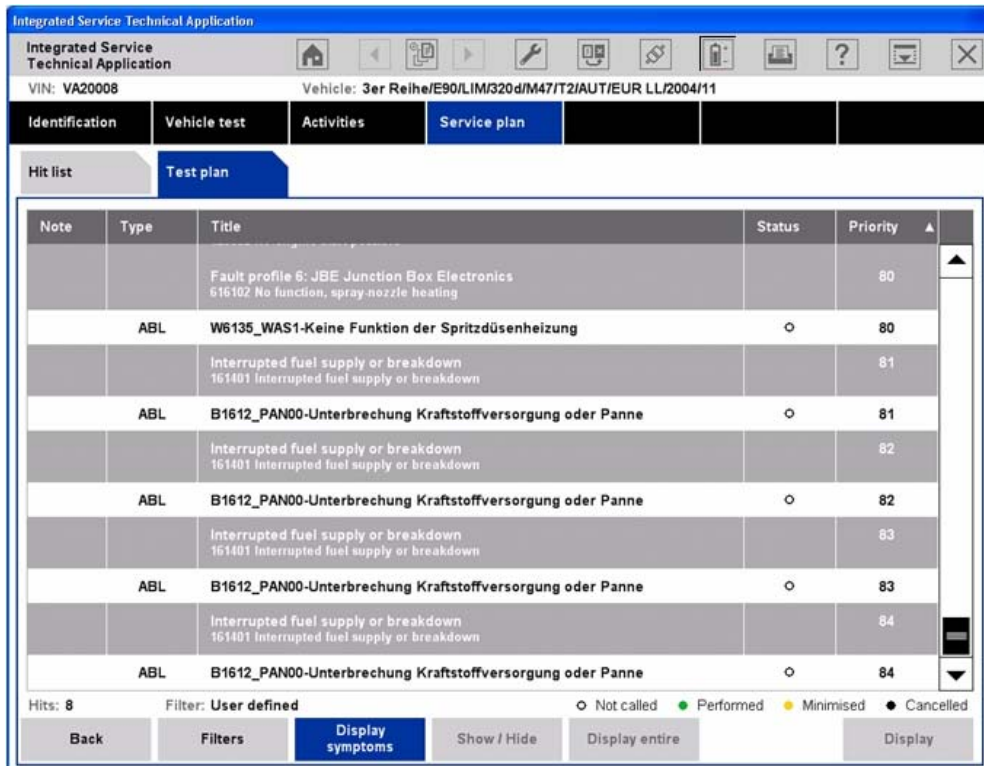

Fig. 3.53 "Test plan" tab with symptoms displayed
- ◇ **Display symptoms:** When you click this button, the symptoms (fault memory entries with prefixed fault code, fault patterns) appear below the selected component/function to be tested, indented and in small font (Fig. 3.53). When you click a second time, the symptoms are displayed again.